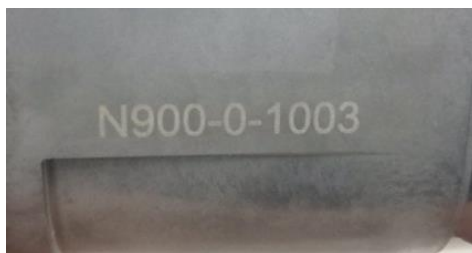

FIGURE 2-6 Rear Serial Number
5. Enter the winch ID in "Target winch ID" in the app screen. The winch ID is the last four digits of the serial number stamped on the back of the winch as shown in Figure 2-6. In this example, "1003" is used.